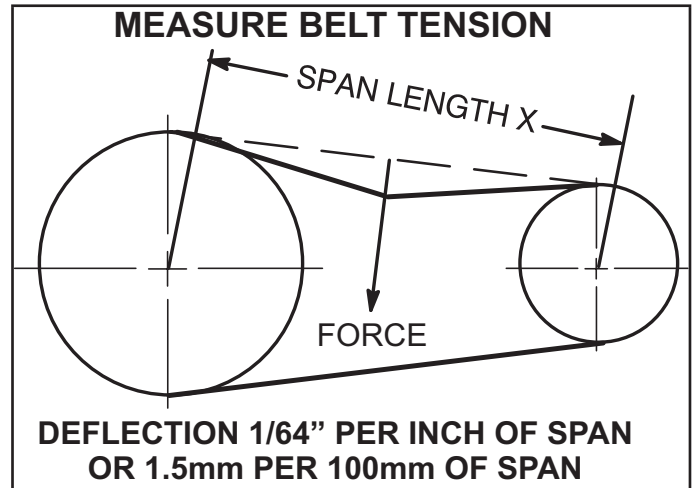

FIGURE 23
- 1 - Measure span length X. See FIGURE 23.
- 2 - Apply perpendicular force to center of span (X) with enough pressure to deflect belt 1/64" for every inch of span length or 1.5mm per 100mm of span length.